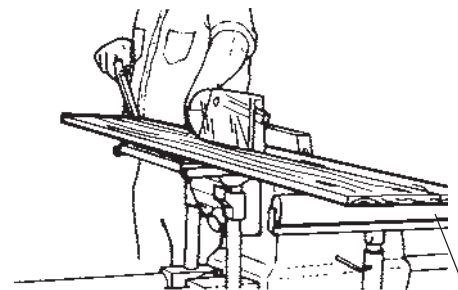

Figure C-8 Roller Stand
4. Position optional roller stand(s) 1' to 4' out from the back and/or front of the table. Adjust the stand(s) so the stock rests flush on the table, then lock the roller stand(s). You can also use it as a support table. See Figure C-8.